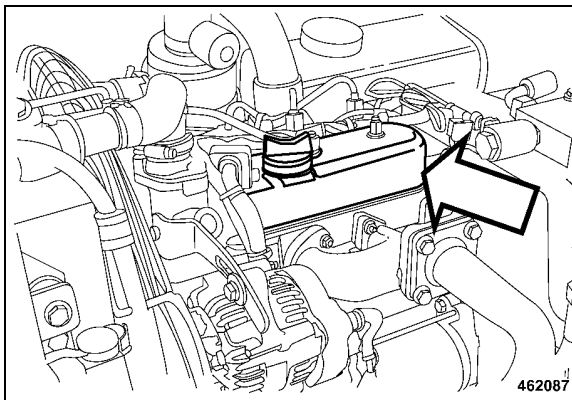

Fig. 148
- Remove the valve cover (Fig. 148).